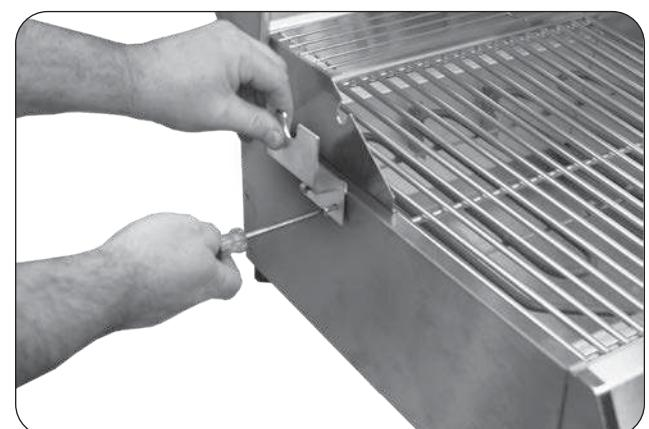

Fig. 13-4 Install bracket (if equipped)
3. Align the holes of the rotisserie bracket with the exposed screw holes on the grill. Using the screws from step 1, fasten the bracket to the grill (see Fig. 13-4).